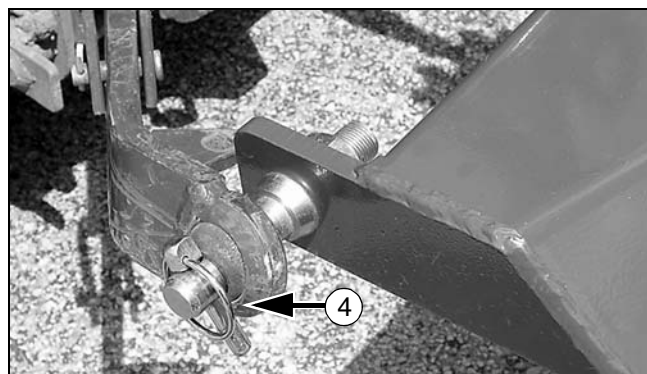

Figure 15. Rear Blade Hitch Pin Assembly
3. Secure the hitch pins (4) facing outward with lock washers and nuts as shown in Figure 15.